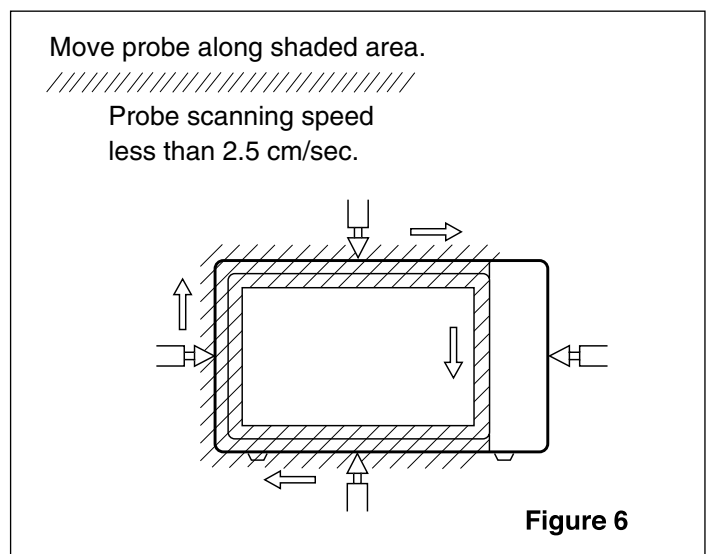

Figure 6
- (1) Pour  $275\pm 15\text{cc}$  of  $20\pm 5^\circ\text{C}$  water in a beaker which is graduated to 600 cc, and place the beaker in the center of the oven.
- (2) Set the energy leakage monitor to 2450 MHz and use it following the manufacturer's recommended test procedure to assure correct result.
- (3) When measuring the leakage, always use the 2 inch (5cm) spacer supplied with the probe.
- (4) Operate the oven at its maximum output.
- (5) Measure the microwave radiation using and electromagnetic radiation monitor by holding the probe perpendicular to the surface being measured. (See Figure 6)